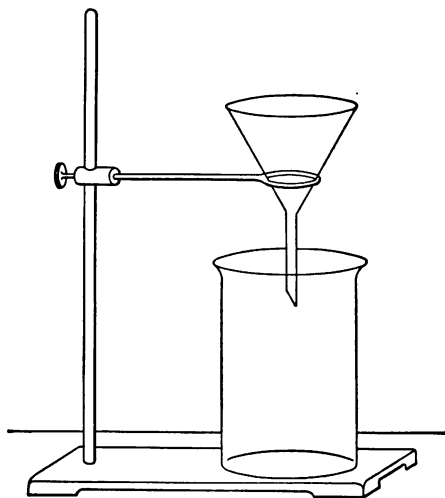

FIG. 2.
M. Now, attend and see how it is possible to do it. I have here a round piece of a particular sort of paper, which is called filter-paper. It is something like blotting-paper, as it sucks up water, only it is made of a purer and firmer substance. I fold the paper in half, and then again in half, and pull it apart so that a sort of little trumpet is made, which is quite plain on one side, and on the other has three layers of paper. That is called a filter. I put my filter in a glass funnel and wet it with water. Now I can press the filter on to the sides of the funnel so that it quite covers it. The funnel is now put in a stand and a glass placed under it (Fig. 2).